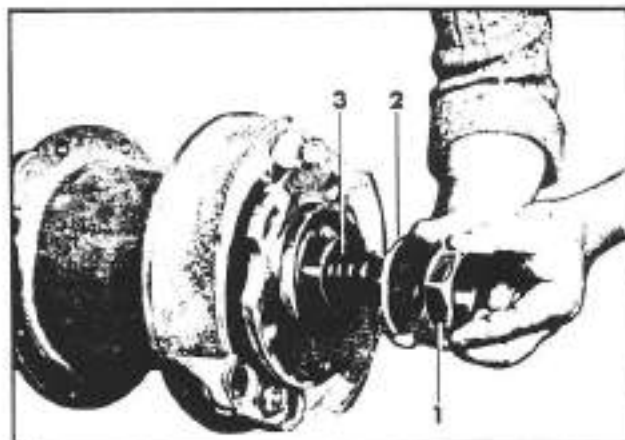

Fig. 3-58. Removal of the flange retaining components
- a. Loosen and remove the nut (1; fig. 3-58). Take off the washer (2; fig. 3-58) and the seals (3; fig. 3-58).